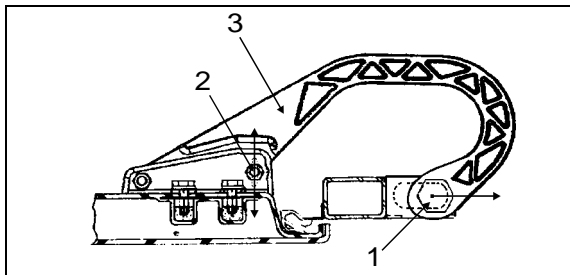

FIGURE 74: DOOR HINGE
2. Loosen nut (1, Fig. 74).
3. Move part (3, Fig. 74) as shown in figure for "LEFT or RIGHT" adjustment.
4. Tighten nut (1, Fig. 74).
5. Loosen nut (2, Fig. 74).